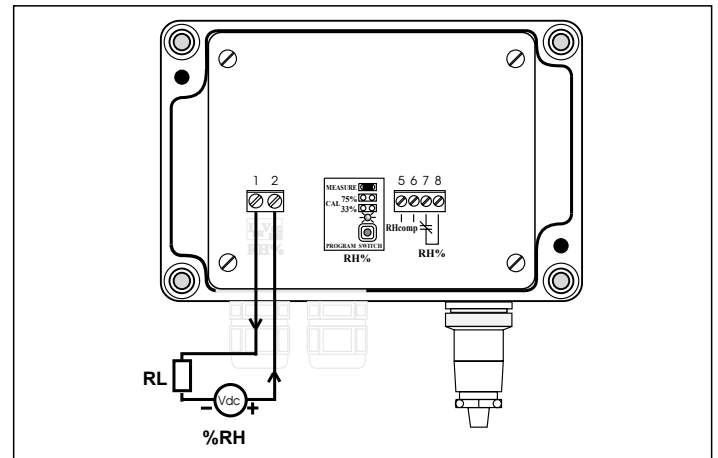
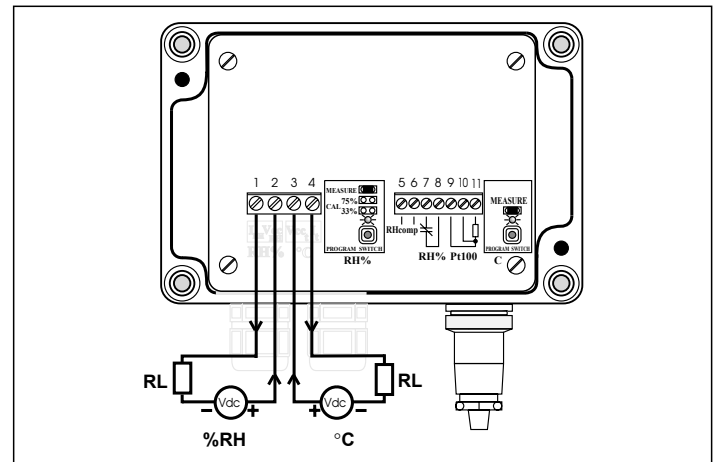

Fig.1 Connection diagram of relative humidity single transmitter
Fig. 2 Connection diagram of relative humidity and temperature combined transmitter
Figure 11 shows the mechanical dimensions of the transmitters and the holes to fix the case. Figures 1 and 2 show current loop connection diagram. The RL (load) symbol identifies any device part of the current loop, that is: either a panel meter, a controller, a data logger or a recorder. Measure accuracy is not affected by the position of the transmitter. However, it is suggested to install the transmitter with the sensor oriented downwards to minimize dust settling on sensor protection filter. The transmitter shall not be mounted neither near a heating source - as heating air causes a decrease in relative humidity (by the same quantity of water vapour) - nor near doors, in presence of rushes of air; but movements of air mustn't miss.
- power the instrument as shown in the connection diagrams of Figure 1 (HD 2007T...) and Figure 2 (HD 2008T...);
- Connect HD 2008T... temperature section as shown in fig. 2, set Pt100 calibrator at a temperature corresponding to 4 mA. For example: let's suppose to adjust a -10...+120°C range and, consequently, to set the calibrator at -10°C; the equivalent resistance value will be 96.09 Ω; if the calibration is carried out with a fixed resistance, between terminals 10 and 11, being terminals 9 and 10 short-circuited, a 96.09 Ω fixed resistance will be connected.